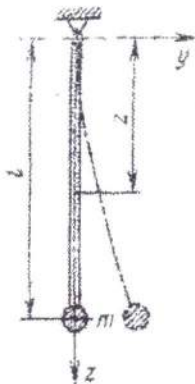

Fig. 5
8. Derive the differential equation of small vibrations and calculate the first frequency of vibrations for a heavy filament with a weight at its end (Fig. 5). The weight mass is  $m$ , and the mass of a unit length of the filament is  $m_0$  so that  $m = m_0 l$ . 10